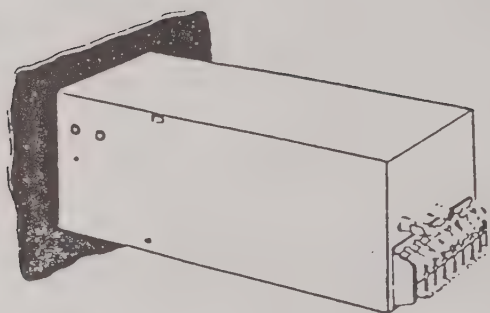

Figure 4-2a. Fixed Mounting
Fixed mounting installation procedures, keyed to figure 4-2a. and b. are as follows:
- (1) Unclip the screw clamps from the sides of the instrument.
- (2) Fit the instrument into the cut-out from the front of the panel (figure 4-2a.). Ease the stud projections through the cut-out by rotating the instrument slightly counterclockwise.